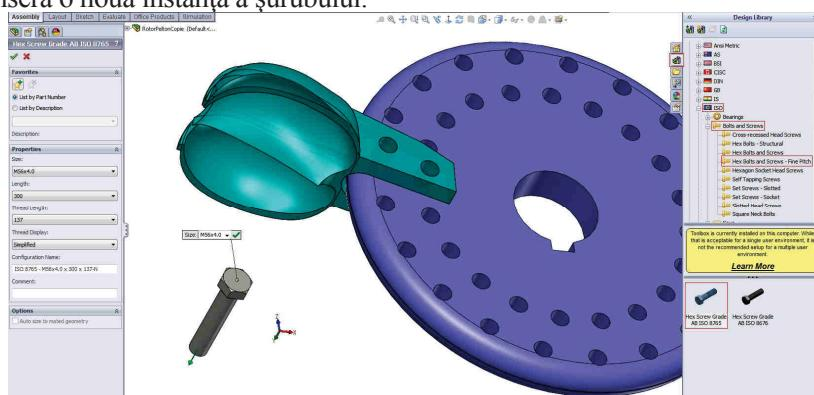

Fig. 3.33
**6 Inserare șurub cu cap hexagonal ISO 8765-M56x4.0x300x137, fig. 3.33:**
**6 Insertion of a ISO 8765-M56x4.0x300x137 hexagonal screw, fig. 3.33:**